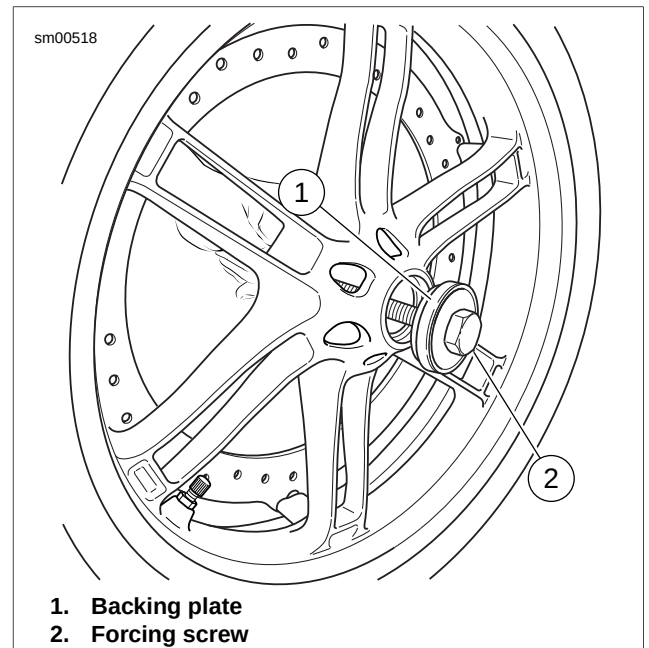

Figure 2-11. Install the Backing Plate (B-43993-12) and Forcing Screw
1. See Figure 2-11. Install the BACKING PLATE (Part No. B-43993-11 front wheel)(1) onto the long forcing screw (2) from the WHEEL BEARING INSTALLER/REMOVER (Part No. HD-44060A), with the smaller diameter toward the wheel hub. Insert the forcing screw and backing plate into the wheel hub.